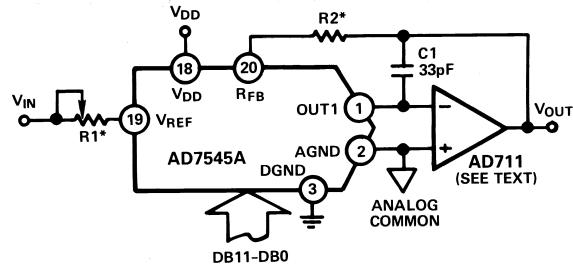
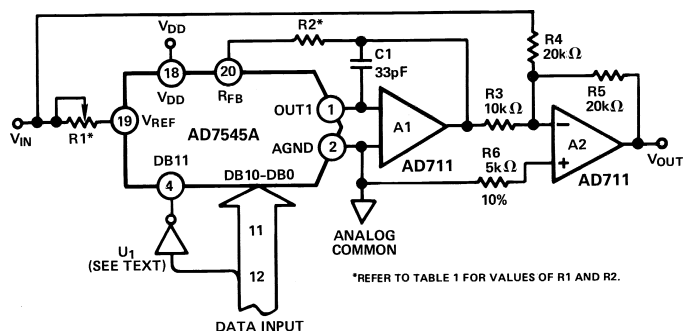
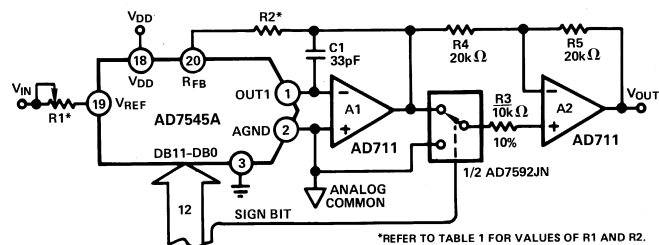
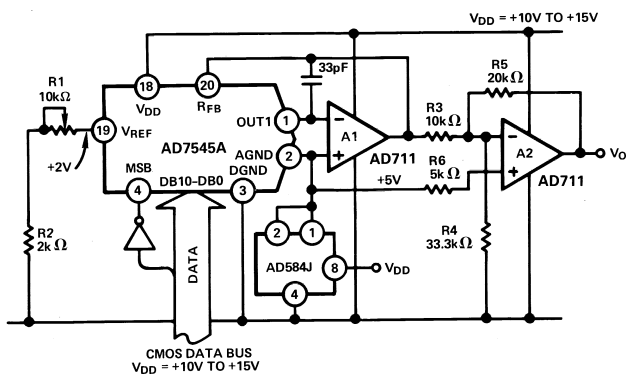

Figure 4. Unipolar Binary Operation
Figure 5. Bipolar Operation (Twos Complement Code)
Figure 6. 12-Bit Plus Sign Magnitude Converter
Figure 10. Single Supply “Bipolar” 2s Complement D/A Converter
Figures 4 and 5 show simple unipolar and bipolar circuits using the AD7545A. Resistor R1 is used to trim for full scale. The L, C, U grades have a guaranteed maximum gain error of  $\pm 1$  LSB at  $+25^\circ\text{C}$ , and in many applications it should be possible to dispense with gain trim resistors altogether. Capacitor C1 provides phase compensation and helps prevent overshoot and ringing when using high speed op amps. Note that all the circuits of Figures 4, 5 and 6 have constant input impedance at the  $V_{REF}$  terminal.
The circuit of Figure 4 can either be used as a fixed reference D/A converter so that it provides an analog output voltage in the range 0 to  $-V_{IN}$  (note the inversion introduced by the op amp) or  $V_{IN}$  can be an ac signal in which case the circuit behaves as an attenuator (2-Quadrant Multiplier).  $V_{IN}$  can be any voltage in the range  $-20 \leq V_{IN} \leq +20$  volts (provided the op amp can handle such voltages) since  $V_{REF}$  is permitted to exceed  $V_{DD}$ . Table II shows the code relationship for the circuit of Figure 4.
Table II. Unipolar Binary Code Table for Circuit of Figure 4
Figure 5 and Table III illustrate the recommended circuit and code relationship for bipolar operation. The D/A function itself uses offset binary code and inverter U1 on the MSB line converts two's complement input code to offset binary code. If appropriate, inversion of the MSB may be done in software using an exclusive-OR instruction and the inverter omitted. R3, R4 and R5 must be selected to match within 0.01%, and they should be the same type of resistor (preferably wire-wound or metal foil), so that their temperature coefficients match. Mismatch of R3 value to R4 causes both offset and full-scale error. Mismatch of R5 to R4 and R3 causes full-scale error.
Table III. Twos Complement Code Table for Circuit of Figure 5
Figure 6 and Table IV show an alternative method of achieving bipolar output. The circuit operates with sign plus magnitude code and has the advantage that it gives 12-bit resolution in each quadrant compared with 11-bit resolution per quadrant for the circuit of Figure 5. The AD7592 is a fully protected CMOS change-over switch with data latches. R4 and R5 should match each other to 0.01% to maintain the accuracy of the D/A converter. Mismatch between R4 and R5 introduces a gain error. Refer to Reference 1 (supplemental application material) for additional information on these circuits.
Table IV. 12-Bit Plus Sign Magnitude Code Table for Circuit of Figure 6
**Output Offset:** CMOS D/A converters such as Figures 4, 5 and 6 exhibit a code dependent output resistance which, in turn, can cause a code dependent error voltage at the output of the amplifier. The maximum amplitude of this error, which adds to the D/A converter nonlinearity, depends on VOS, where VOS is the amplifier input offset voltage. To maintain specified accuracy with VREF at 10 V, it is recommended that VOS be no greater than 0.25 mV, or (25 × 10-6) (VREF), over the temperature range of operation. Suitable op amps are AD517 and AD711. The AD517 is best suited for fixed reference applications with low bandwidth requirements: it has extremely low offset (150 μV max for lowest grade) and in most applications will not require an offset trim. The AD711 has a much wider bandwidth and higher slew rate and is recommended for multiplying and other applications requiring fast settling. An offset trim on the AD711 may be necessary in some circuits.
**Temperature Coefficients:** The gain temperature coefficient of the AD7545A has a maximum value of 5 ppm/°C and a typical value of 2 ppm/°C. This corresponds to worst case gain shifts of 2 LSBs and 0.8 LSBs respectively over a 100°C temperature range. When trim resistors R1 and R2 (such as in Figure 4) are used to adjust full-scale range, the temperature coefficient of R1 and R2 should also be taken into account. The reader is referred to Analog Devices Application Note "Gain Error and Gain Temperature Coefficient to CMOS Multiplying DACs," Publication Number E630c-5-3/86.
The circuits of Figures 4, 5 and 6 can all be converted to single supply operation by biasing AGND to some voltage between  $V_{DD}$  and DGND. Figure 10 shows the 2s Complement Bipolar circuit of Figure 5 modified to give a range from +2 V to +8 V about a “pseudo-analog ground” of 5 V. This voltage range would allow operation from a single  $V_{DD}$  of +10 V to +15 V. The AD584 pin-programmable reference fixes AGND at +5 V.  $V_{IN}$  is set at +2 V by means of the series resistors R1 and R2.